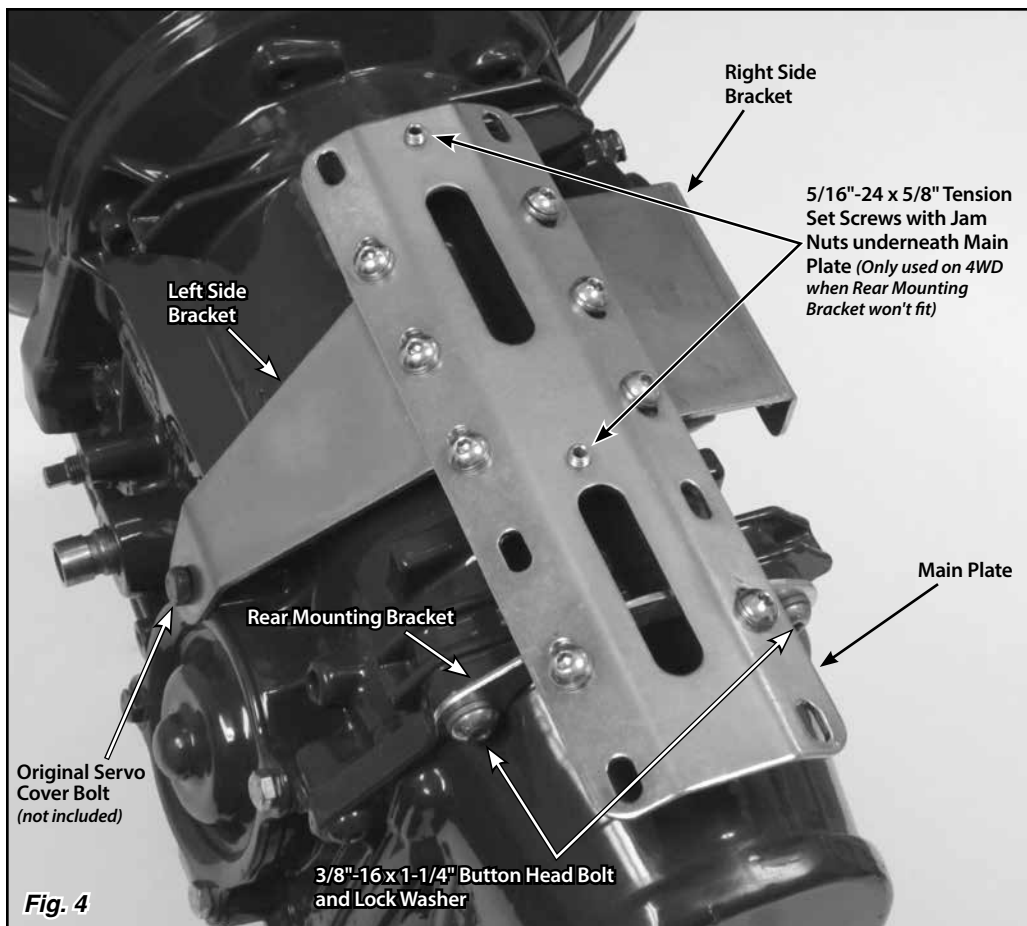

Fig. 4
If you have a 4 wheel drive application that will not accept the rear mounting bracket, thread the 5/16"-24 x 5/8" tension set screws into the tension set screw holes at the front and in the center of the shifter main plate. Install the jam nuts onto the bottom end of the tension set screws, underneath the main plate. **Fig. 4**
Step 6: Set the mounting bracket assembly into place on top of the transmission. **Fig. 4** Attach the mounting bracket assembly to the transmission by first re-installing the left and right servo cover bolts you removed, through the side brackets and into the transmission.
Step 7: Tighten all of the bolts on the left, right, and rear (if applicable) mounting brackets. **Fig. 4**